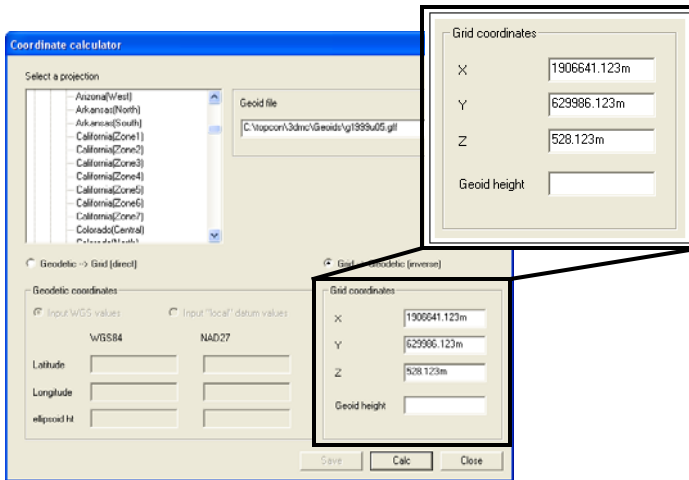

Figure 2-14. Enter Geodetic Coordinate Values and Geoid Height
4. Enter the XY grid coordinates and the elevation (Figure 2-14 on page 2-12).